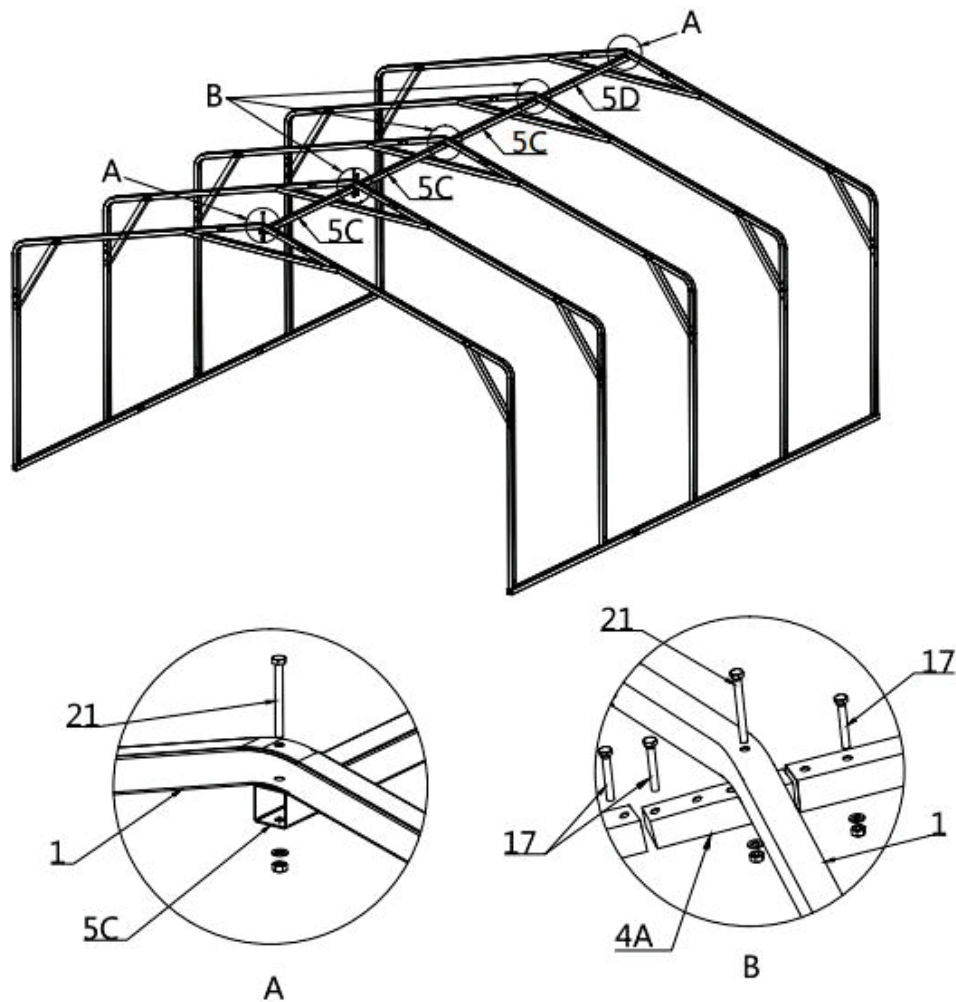

Figure 6
- Install top cross bar A (#5C) and top cross bar B (#5D). Use (#21) and (#17) Hexagonal bolt fixation. (refer to Figure 6)